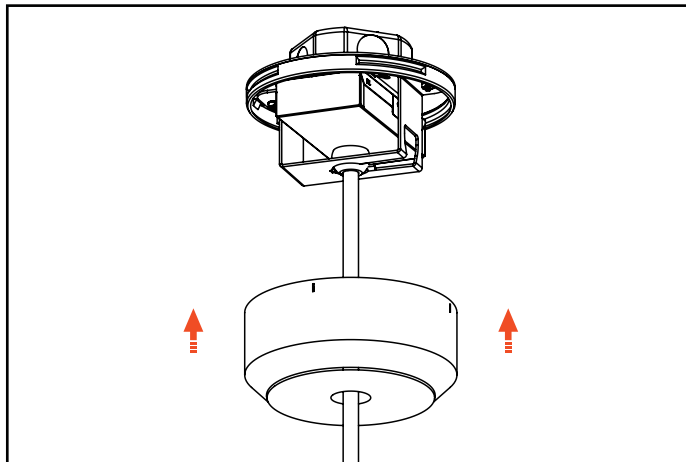

Figure 29
22. Secure back Canopy Cover (H) by sliding over stem then pressing against **Canopy Plate (B)** (Figure 29)